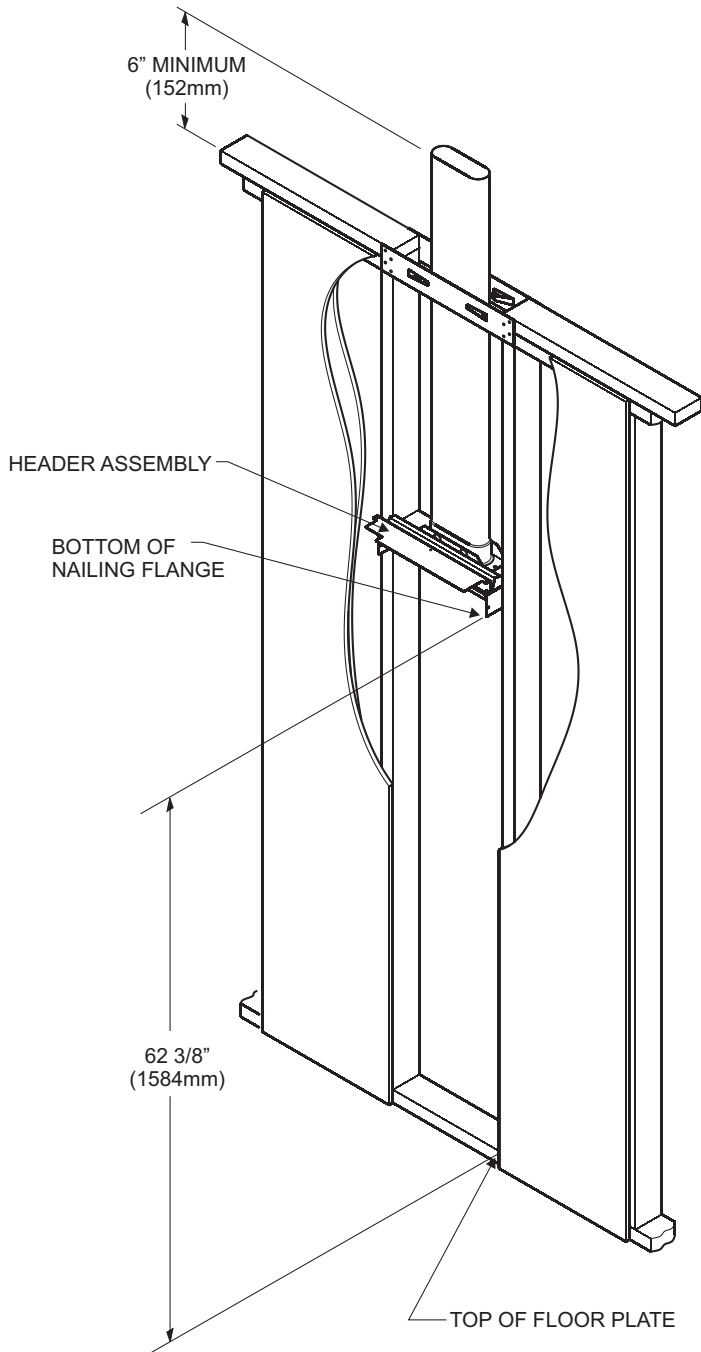

Figure 18
7. Position header plate at height shown in Figure 18.
10. Secure header plate to the wall studs with four (4) #10 x 1" screws provided or nails.